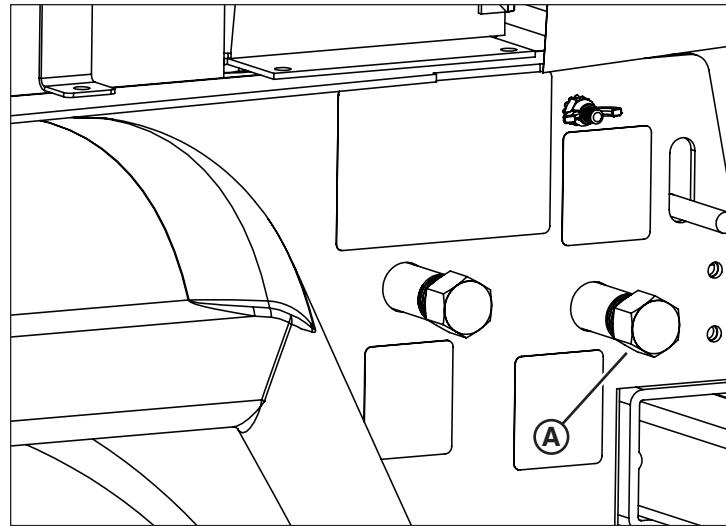

Figure 24
1. Position a suitable container beneath the fluid containment drain (**A**, Figure 24), located on the left side of the light tower trailer toward the rear.